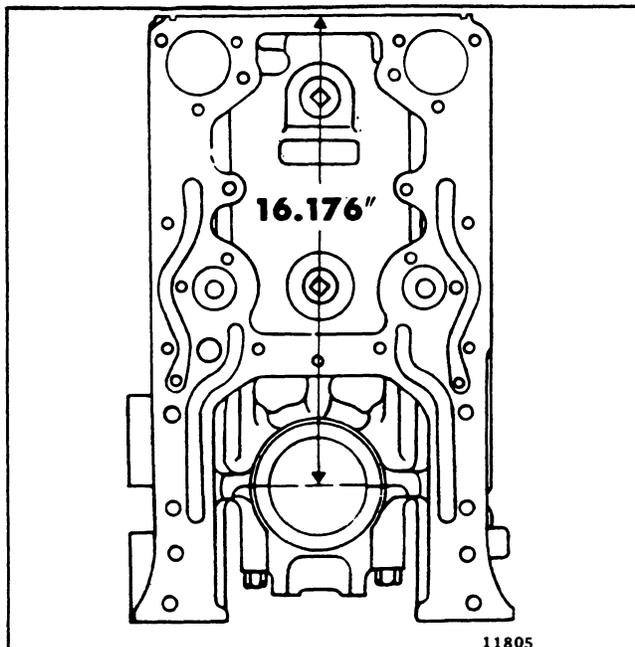

Fig. 17 - Minimum Distance from Center Line of Crankshaft to Top of Cylinder Block
- b. If it is necessary to machine the top surface of the block to correct for the above conditions, do not remove more than .008" of metal. Stamp the amount of stock removed on the face of the block. The distance from the centerline of the crankshaft to the top of the block must not be less than 16.176" (Fig. 17).